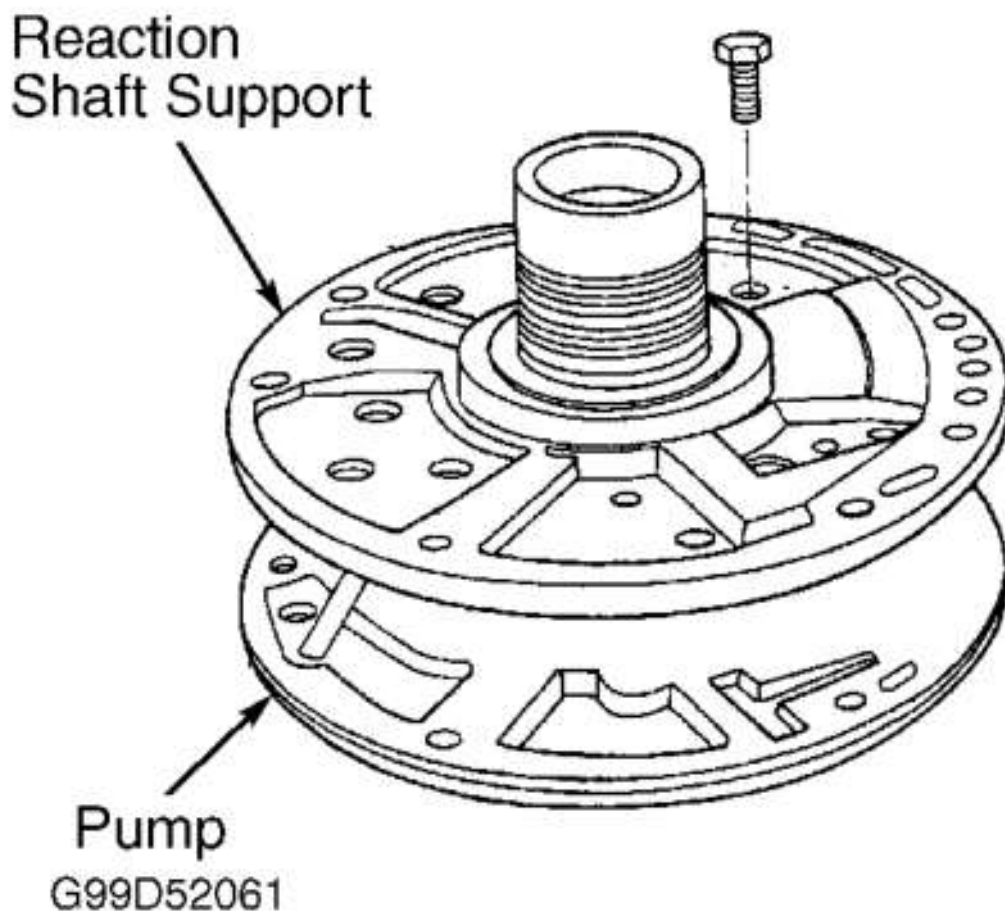

Fig. 18: Removing Reaction Shaft Support From Oil Pump Housing
1. Place reference mark on oil pump housing and reaction shaft support for reassembly reference. Remove reaction shaft support bolts. Separate reaction shaft support from oil pump housing. See **Fig. 18**. Remove seal ring from outer diameter of oil pump housing.